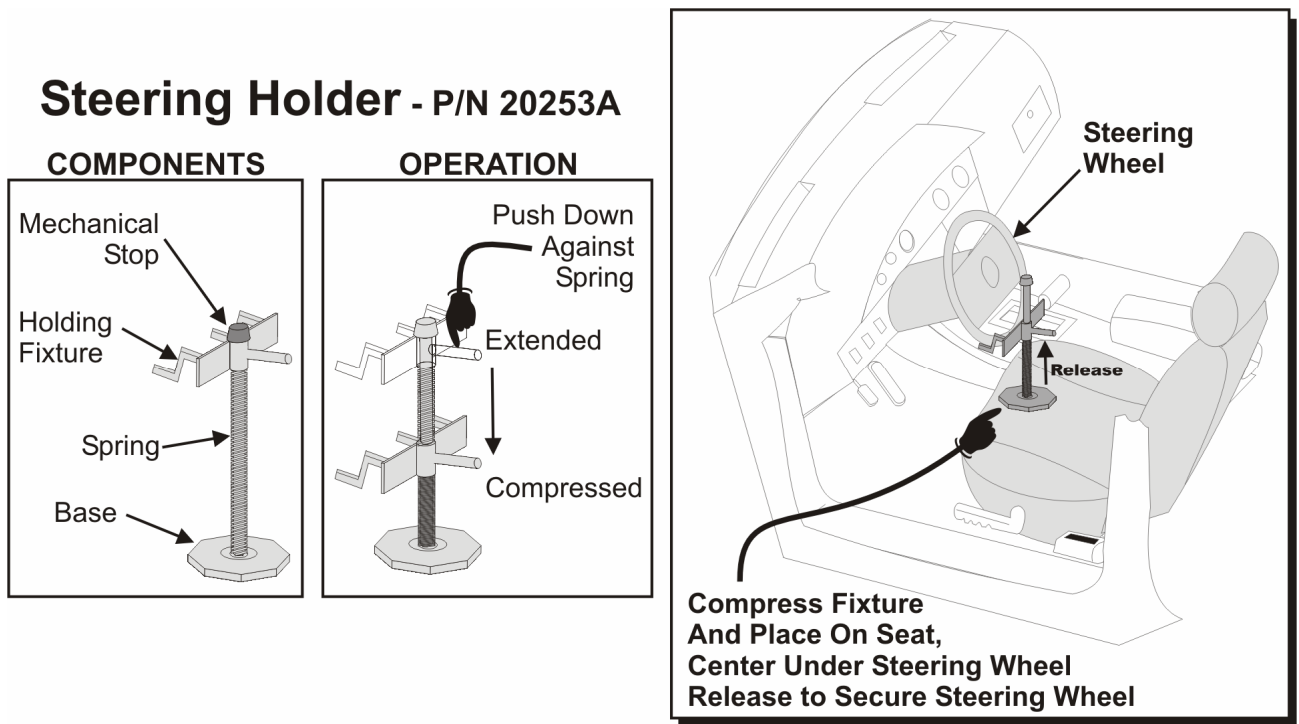

Figure 2-3. Steering Holder
2.5 Steering Holder. A steering wheel holder (provided) is used to properly hold the steering wheel in a “straight steering” position. Often when a vehicle is out of alignment, an indicator is driving straight with the steering wheel slightly to extremely off-center, refer to Figure 2-3 as necessary. Interlocking the steering wheel holder, when adjusting the front toe of the vehicle, realigns and corrects the steering wheel position.